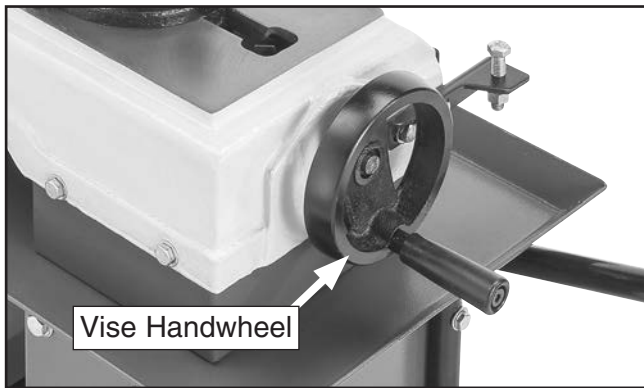

Figure 47. Location of vise handwheel.
- Use vise handwheel to tighten vise against workpiece (see **Figure 47**).